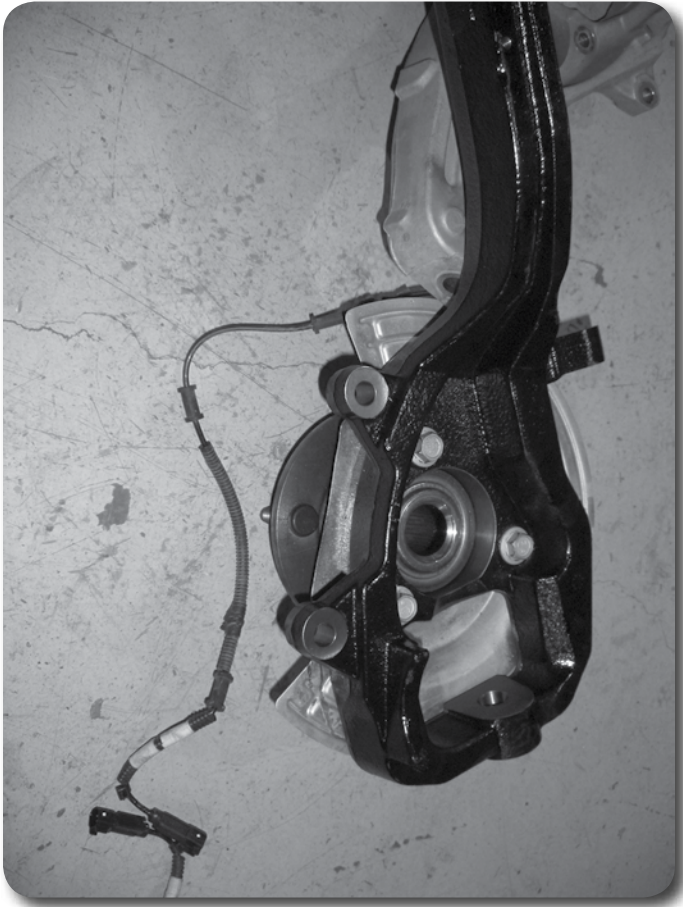

Figure. 7
23. Install the hubs in the corresponding new knuckles and fasten with the stock mounting bolts **Figure 7**. Index the hub so that the ABS line runs out the front side of the knuckle toward the steering arm. Use Loctite on the bolt threads and torque to 125 ft-lbs.